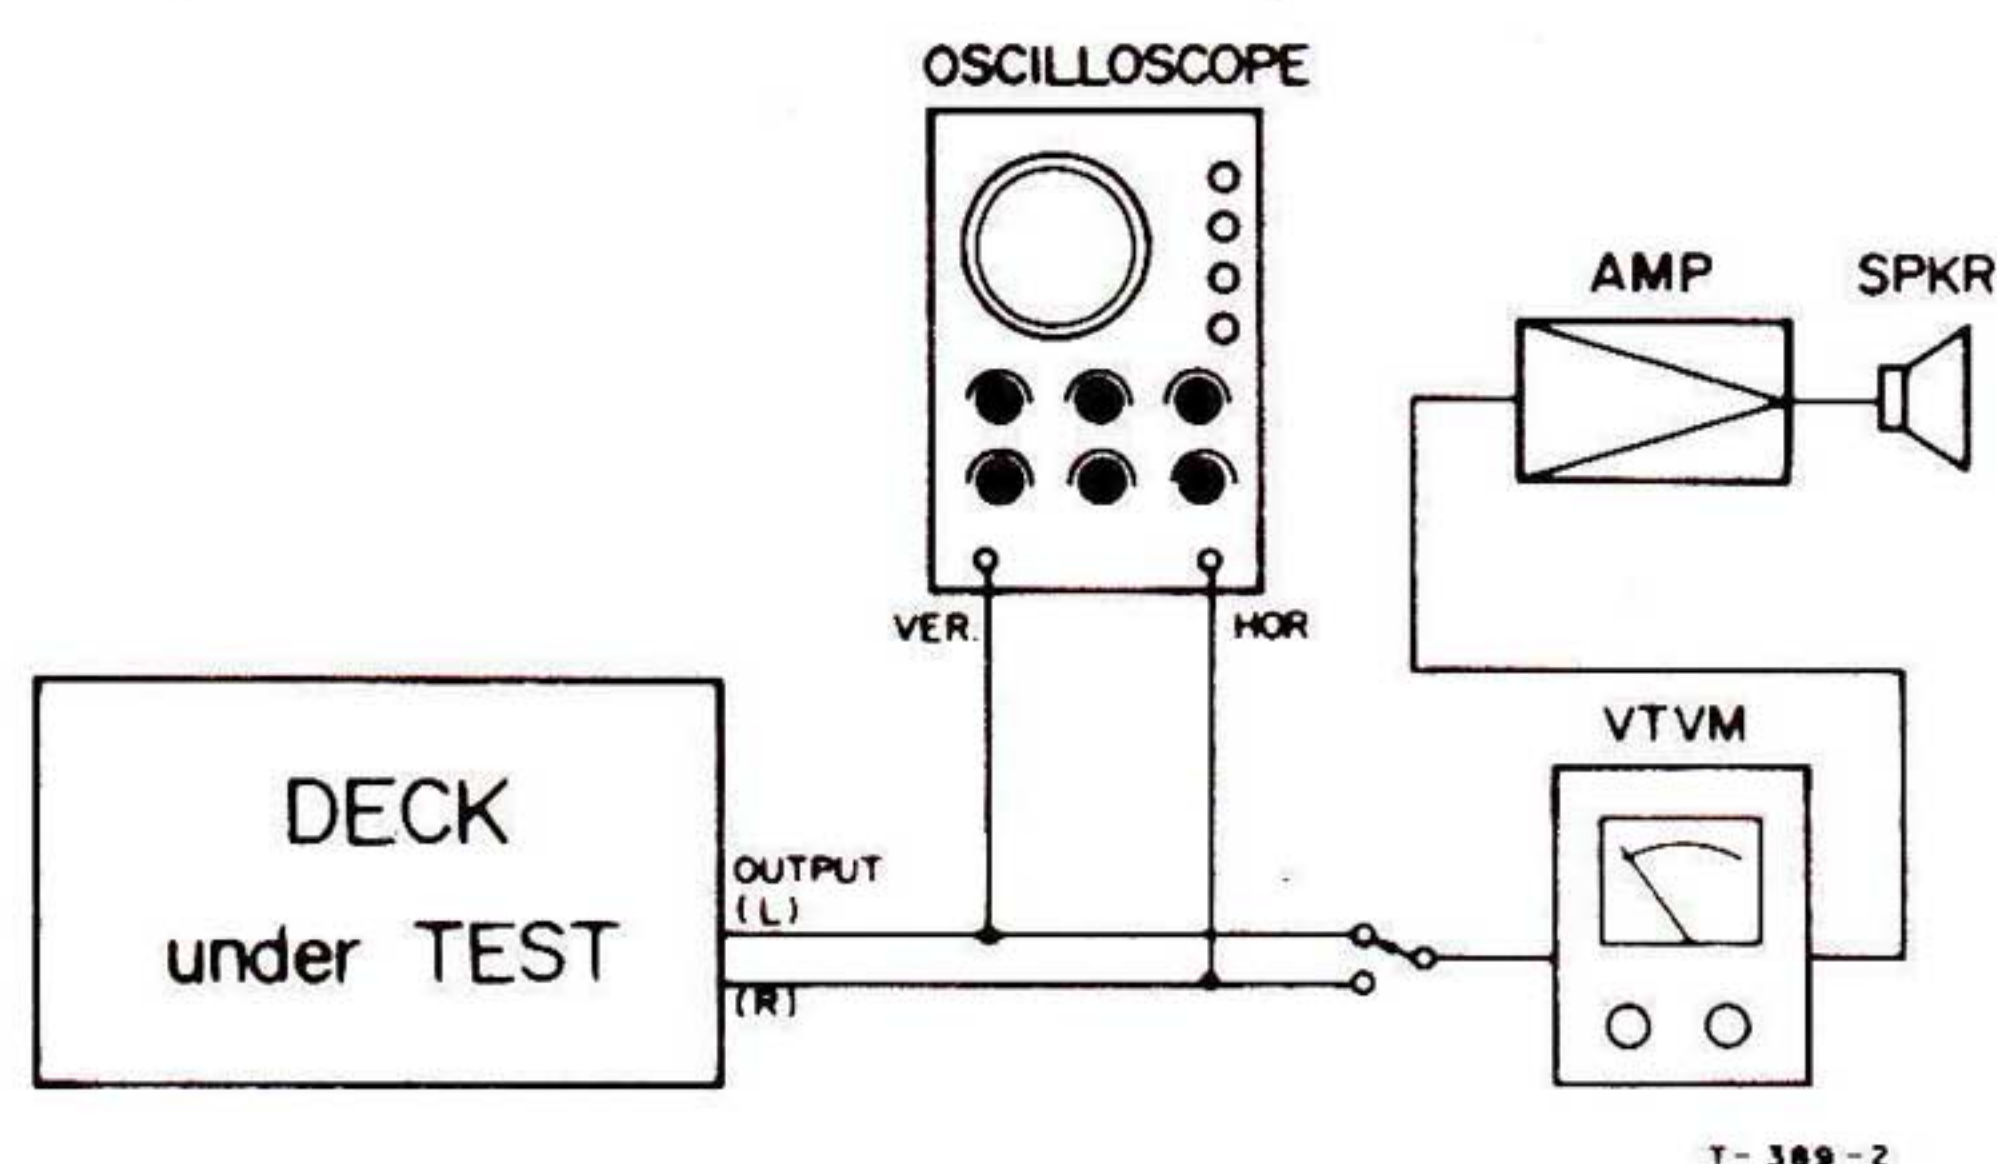

Fig. 5-6 Head Alignment Setup
1. Connect an oscilloscope and VTVM to the OUTPUT jacks. Connect the left channel output to the vertical 'scope input and the right channel output to the horizontal 'scope input. See Fig. 5-6.